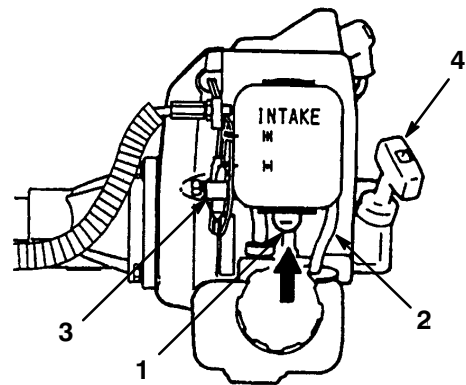

Figure 11
1. Pump the primer bulb at the bottom of the carburetor until fuel can be seen flowing through the fuel return line to the fuel tank (Figs. 11). (Flowing fuel should be almost clear, not foamy or full of bubbles.)
2. Move the choke lever to the closed ($\overline{\text{I}}$) position and move the stop switch to the “ON” position (Figs. 11 and 12).
4. After the engine starts, move the choke lever to the open ($\overline{\text{O}}$) position, then squeeze and release the throttle trigger to allow it to return to the idle position (Figs. 11 and 12).
- A. Go ahead and open the choke (Fig. 11).
1. Pump the primer bulb at the bottom of the carburetor until fuel can be seen flowing through the fuel return line to the fuel tank (Figs. 11).
2. Move the choke lever to the open ($\overline{\text{---}}$) position and move the stop switch to the “ON” position (Figs. 11 and 12).
3. Leave the throttle trigger in the idle position and pull the starter handle (Figs. 11 and 12).